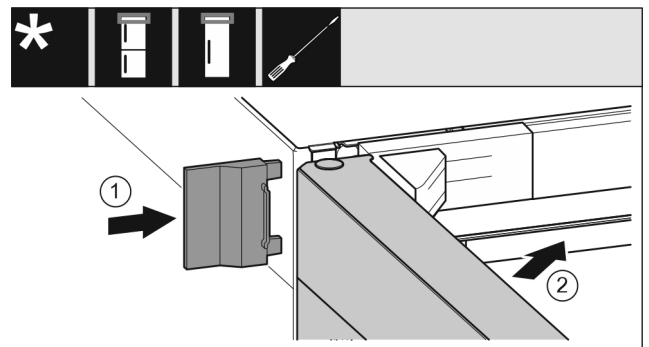

Fig. 24
- ▶ Slide on the outer cover. Fig. 24 (1)
- ▶ Close the upper door. Fig. 24 (2)